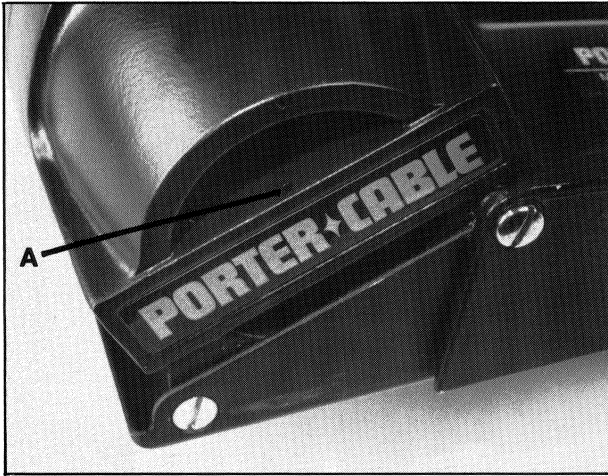

Fig. 7
The armature commutator end bearing is of the oil-impregnated bronze type. This bearing should be lubricated after each 25 hours of operation. Add 4 drops of a good grade bearing oil or best grade, non-detergent, SAE20 motor oil, to the oil hole (A) Fig. 7, located directly above the decorative name plate in front of the upper ventilating slot on the left end of the motor housing. Be sure to clean out oil hole before adding oil. **WARNING:** Do not add more than 4 drops of oil each time you lubricate this bearing. If an excess amount is added, some might work onto the armature commutator to cause motor failure.